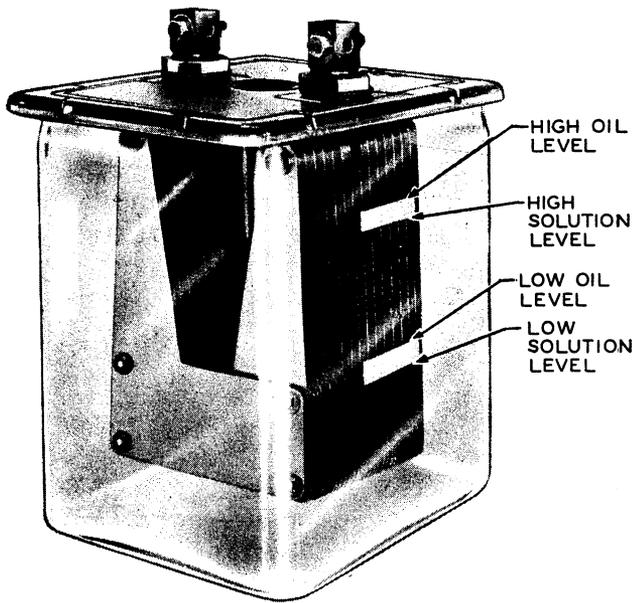

Fig. 1 – Typical 2-post Alkaline-type Countercell
1.14 The rated full-load continuous amperes and the approximate number of ampere-hours required to drop the solution from the maximum level to the minimum (see Fig. 1 and 2) are shown in Table A. With countercells used only during charging, water loss can be reduced by scheduling the charge during a light load period of the day. This will also be of advantage when load unbalance between strings is resulting in overload on one string.
See Fig. 1 and 2.
- (1) If the level of the alkaline solution is approaching the allowable minimum level, raise the level by adding distilled water, or water known to be suitable for use in storage batteries, through the vent opening. It will usually be easier to insert a glass funnel through the vent opening and add the water through this funnel. Do not fill above the bottom of the upper level mark (see Fig. 1 and 2). Any nonmetallic container approved for battery electrolyte water is also satisfactory for countercell water.
- (2) If any alkaline solution gets on the outside surfaces of a cell, or on the stand or other cell supports, rinse off with clean water and dry with clean cloth.
- (1) Add new mineral oil as necessary to give the specified layer above the alkaline solution. The oil should be added through the vent hole. The level line being 1/2 inch gives convenient scale for estimating thickness of oil. (See Fig. 1 and 2.)